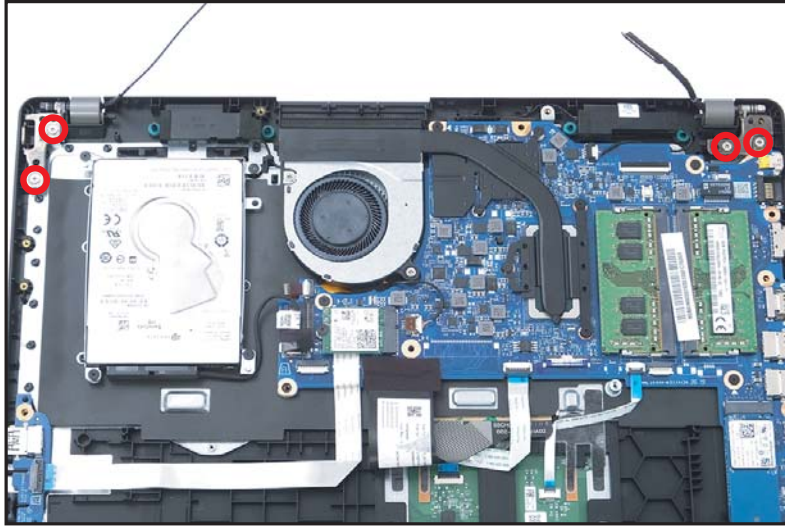

Figure 1-27. LCD Module Removal
5. Remove four (4) screws securing the LCD hinges in place (Figure 1-27).